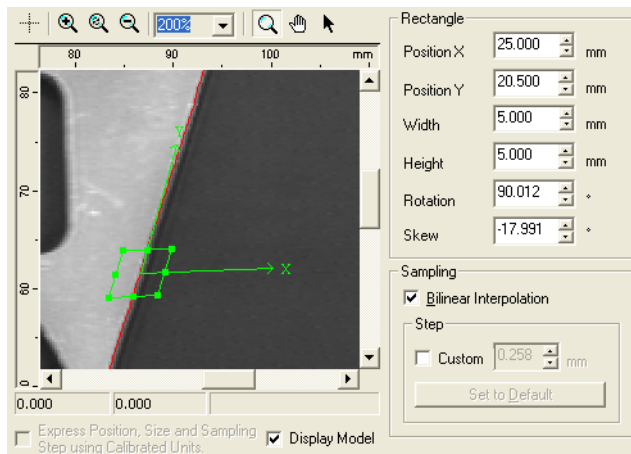

Figure 113 Adjusting Rectangle for the Hook's Right Edge
8. Place the Rectangle on the part as shown in Figure 113. Click the arrow of the X-axis and drag it to adjust the rotation to 90 degrees. Click the center of the Rectangle and drag it into position. Since the edge to be located is not orthogonal to the tool's X-axis, adjust the skew by clicking and dragging the arrow of the Y-axis to make it parallel to the right edge of the part. Fine-tune the position with the text boxes if needed. Once the Rectangle is placed, click **Execute**.